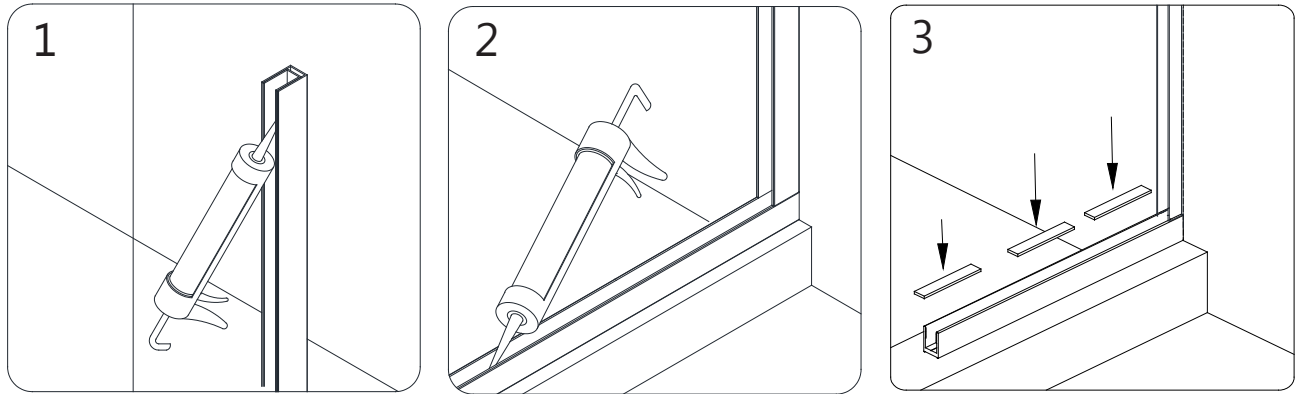

Fig 4
3. Apply a good quality mildew-resistant silicone into both U-channels. Add several 2" pieces of the **0.5mm Adjustment Spacers (#34)** into the **Bottom U-channel (#29)** to protect the bottom and corners of the glass. **(Fig 4)**